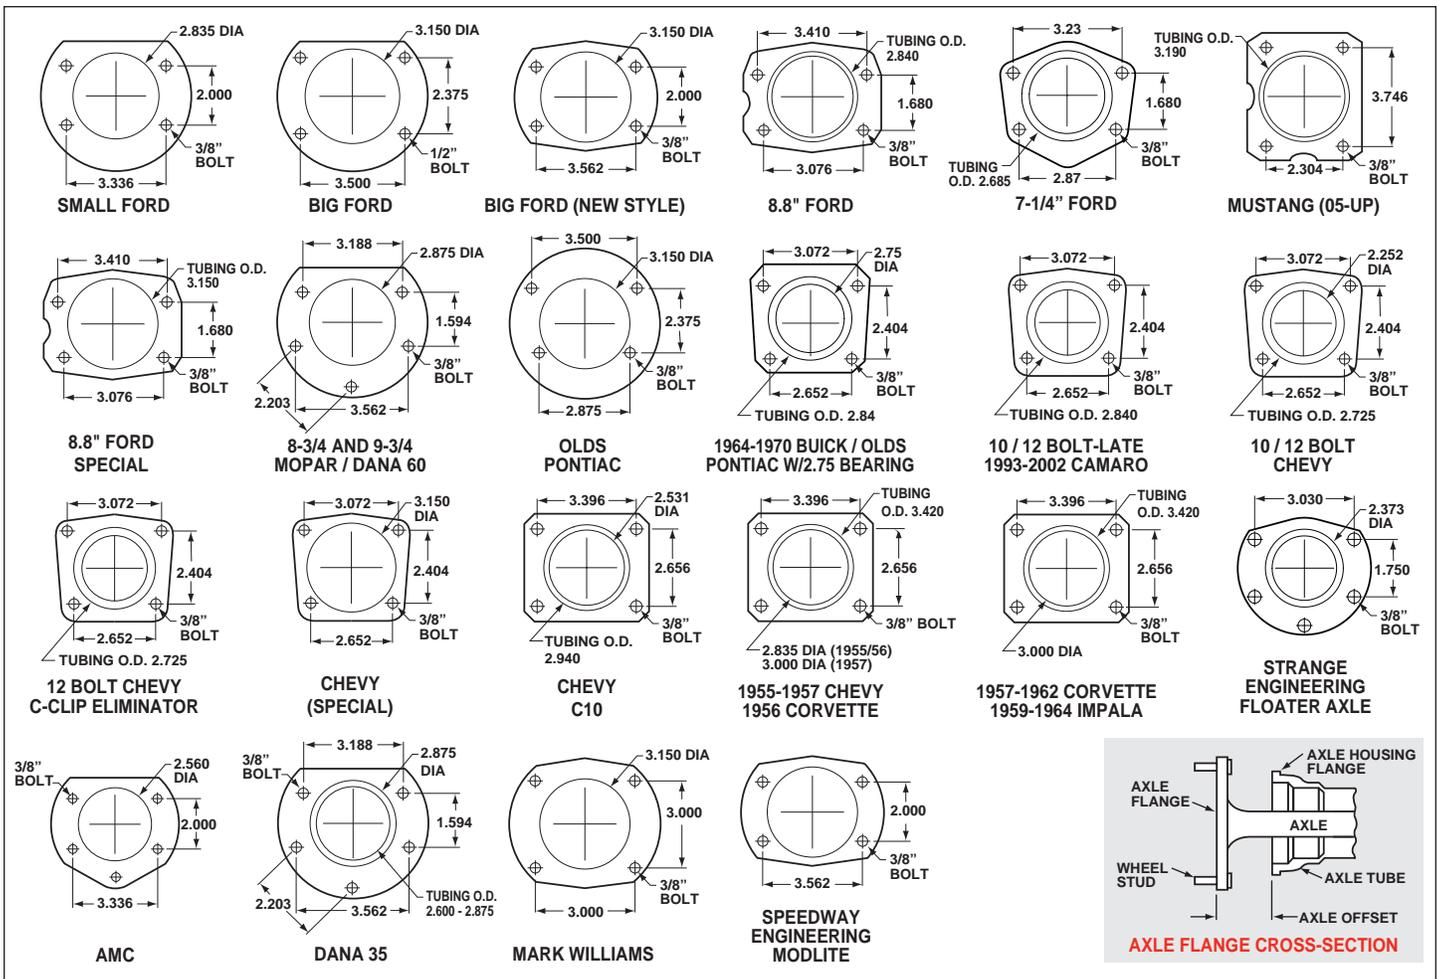

Figure 4. Rear Housing Flange Chart and Axle Flange / Offset Cross-Section
- Make sure this is the correct kit to fit the axle housing flange, not necessarily the rear end make. Many times aftermarket manufacturers put a different make of axle housing flange on the stock rear end housing (Figure 4). Example; Big Ford rear ends with Chevrolet flanges, therefore, a Chevrolet rear disc brake kit would be the correct kit to order. Also, shock clearance may be a problem. They may have to be modified and/or relocated to clear the Wilwood kit after final assembly.
- Dimension from wheel side of axle flange to wheel side of axle housing flange (see Figure 4, lower right hand corner). This dimension is critical to ensure proper alignment of the rotor to the caliper, and should match offset given in the kit description.